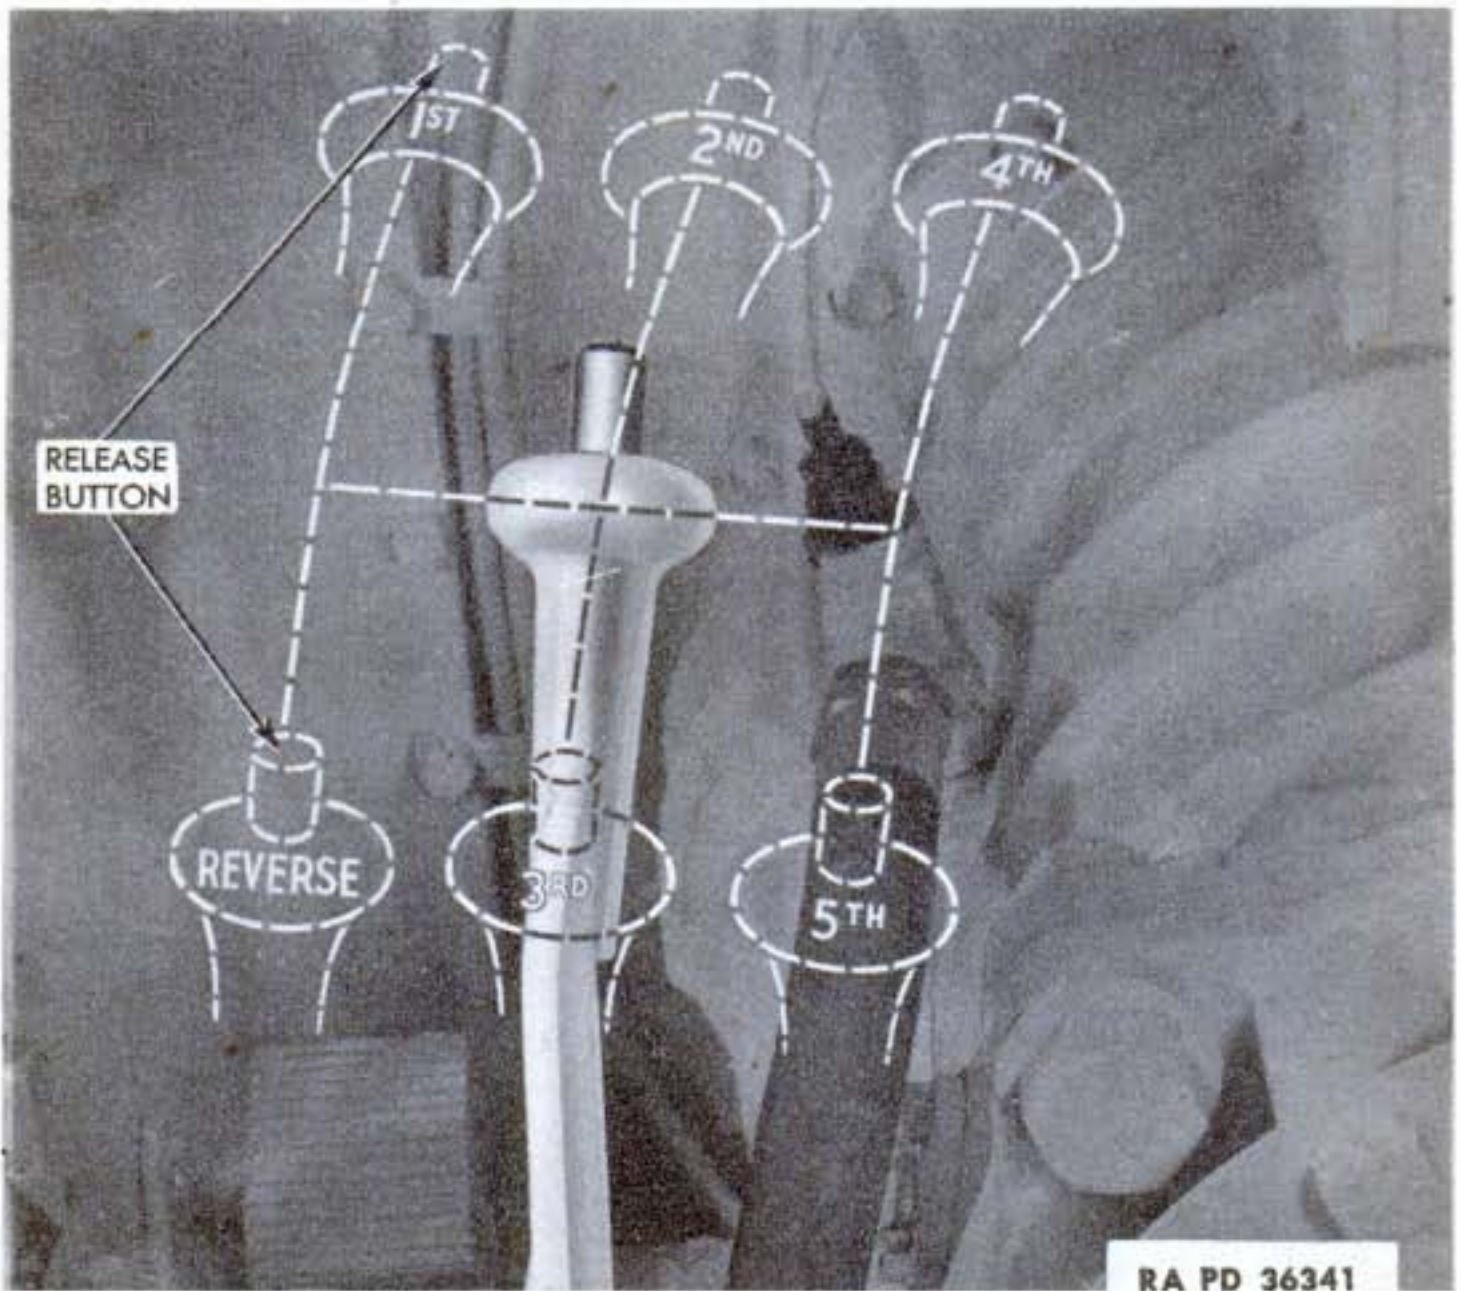

Figure 24—Gearshift Lever
c. Shifting Gears Up. Read gear shifting instructions on transmission. See that throttle is in idling position and locked, that gearshift lever is in neutral, and that clutch lockouts are pushed in. First speed is a creeper gear which provides a very low gear ratio for maximum pulling when in deep mud or sand or climbing steep grades. Hold down safety button on gearshift lever to shift into first (fig. 24). Maximum speed in first gear is 2 miles per hour. On firm, level ground start in second gear. Hold clutch pedal down, and shift into second. Release clutch pedal gradually while pressing down on accelerator. When vehicle speed reaches approximately 6 miles per hour, shift into third. Apply a firm, steady pressure on gearshift lever so that synchronizer can adjust the speed of the shifting parts to make shifting easier and avoid clashing. When vehicle has been accelerated to approximately 10 miles per hour, shift into fourth and at 16 miles per hour, shift into fifth.
e. Backing the Vehicle. Always bring vehicle to a complete stop before shifting into reverse gear. Hold down safety button on gearshift lever to shift into reverse (fig. 24). In reverse, do not permit engine speed to exceed 1,800 revolutions per minute. Avoid backing vehicle for any great distance as power train pressure lubricating system is inoperative in reverse.